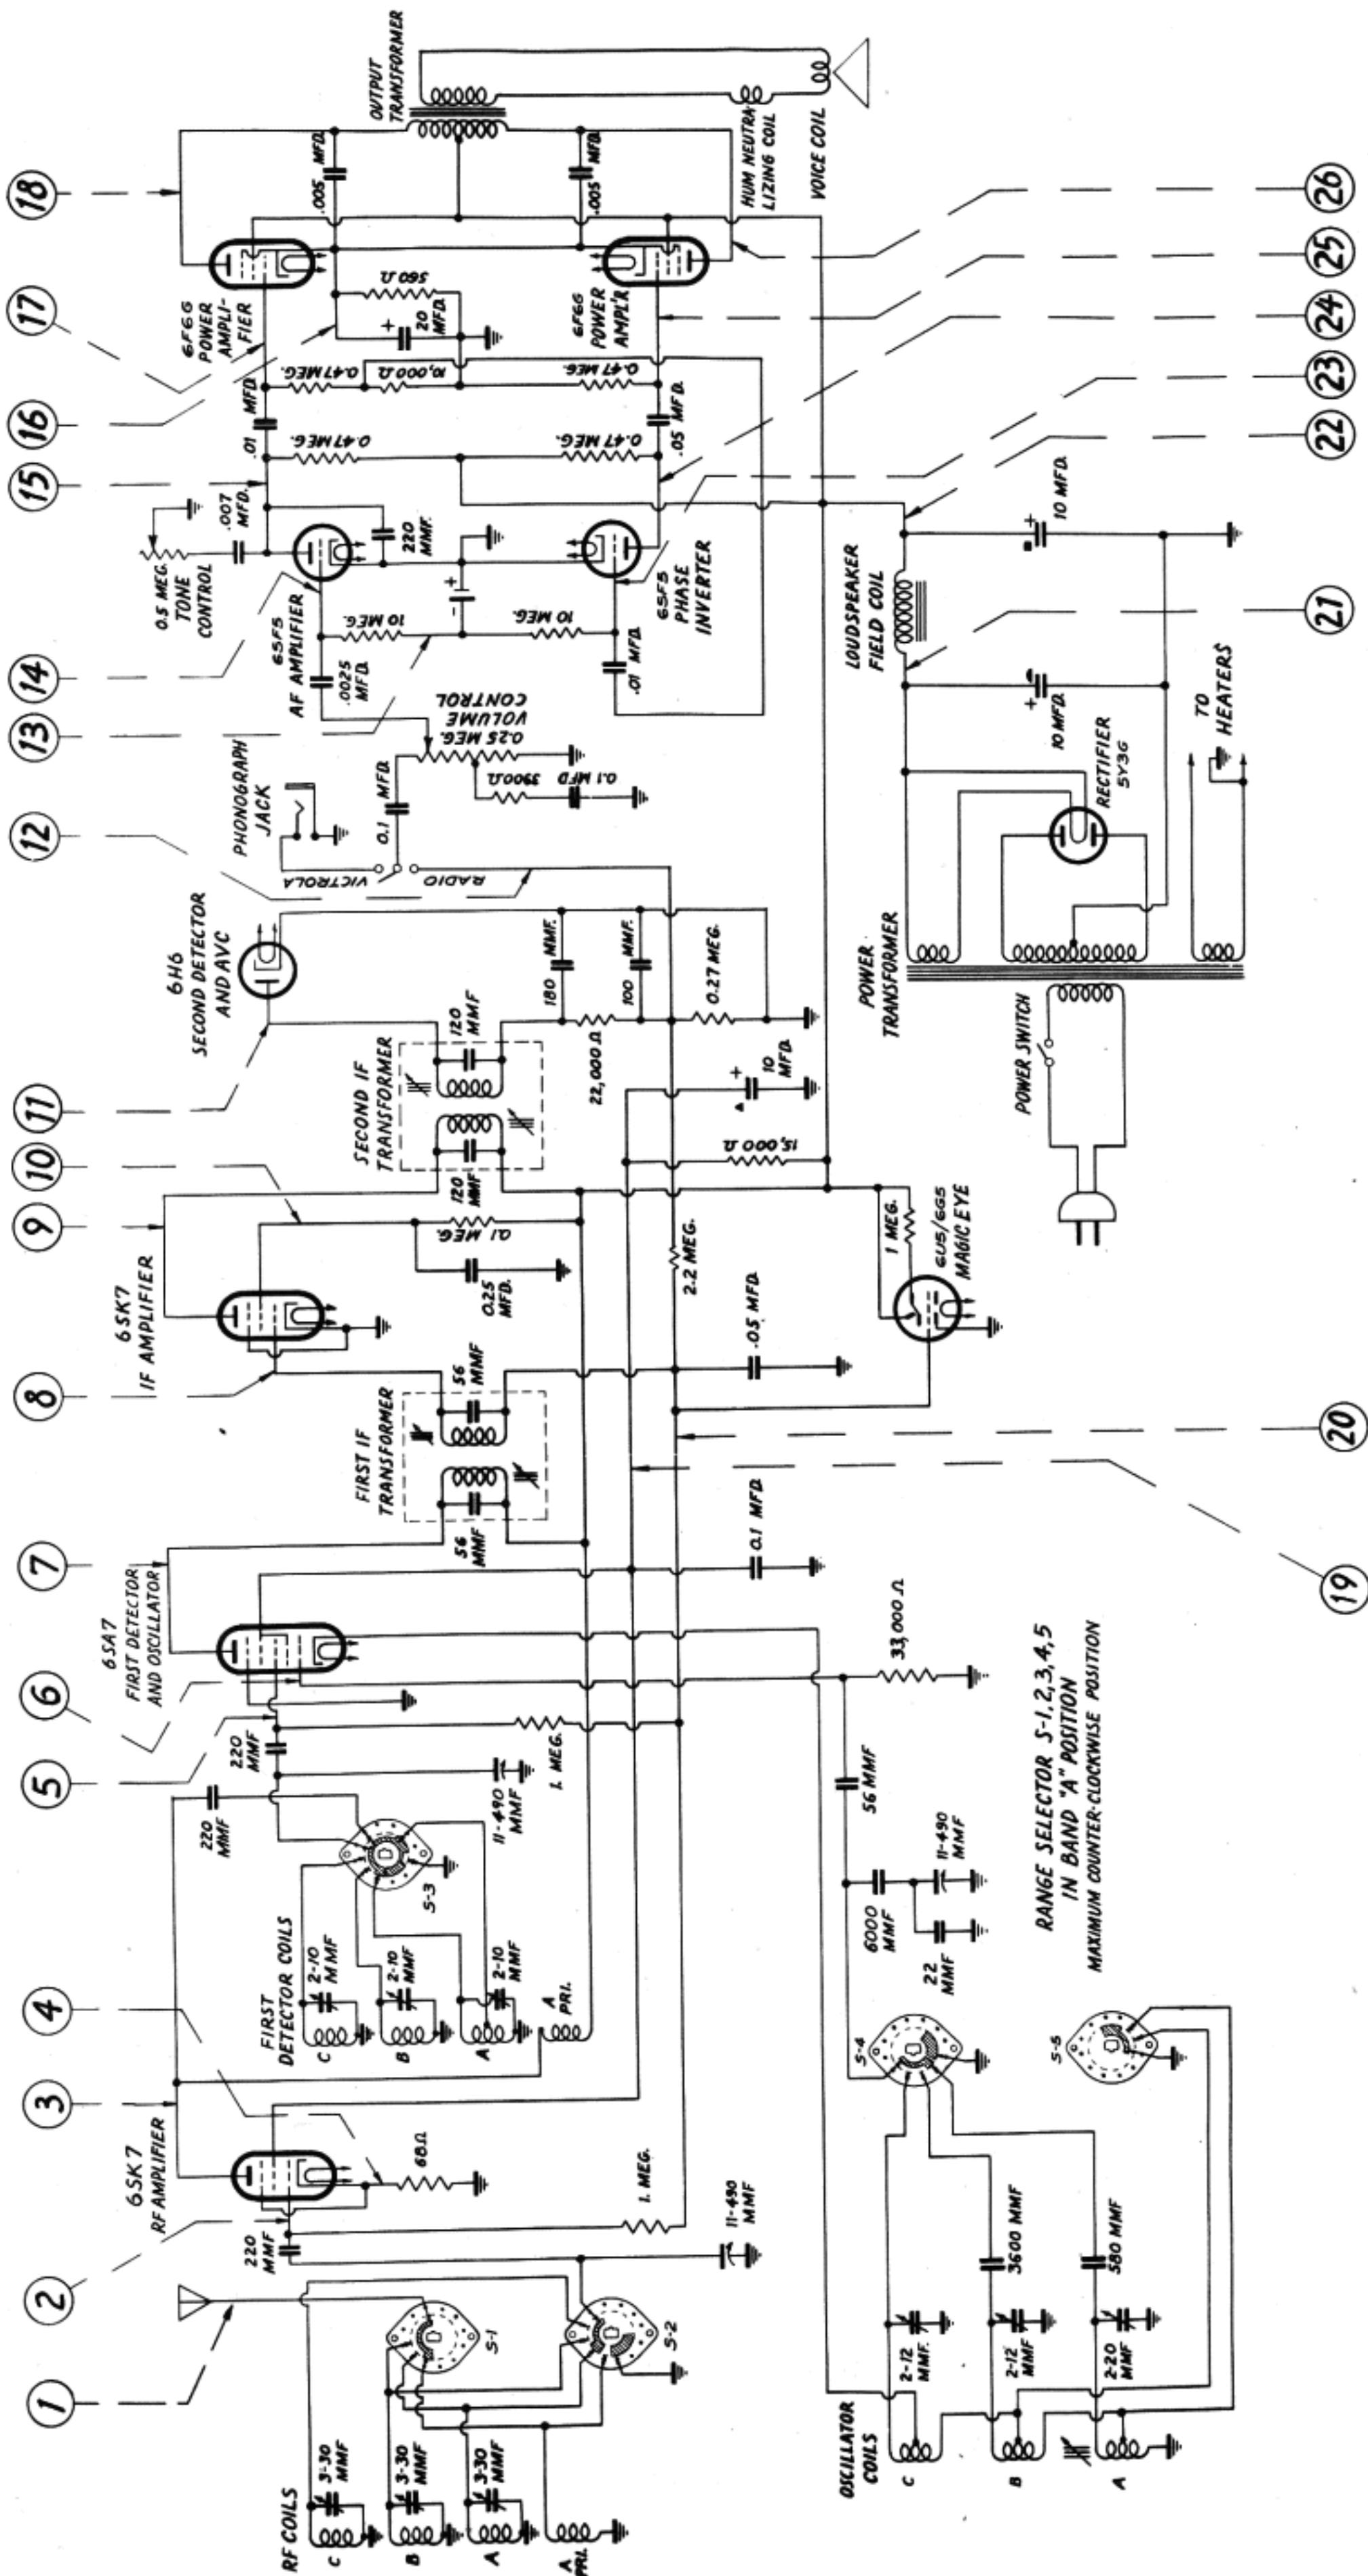
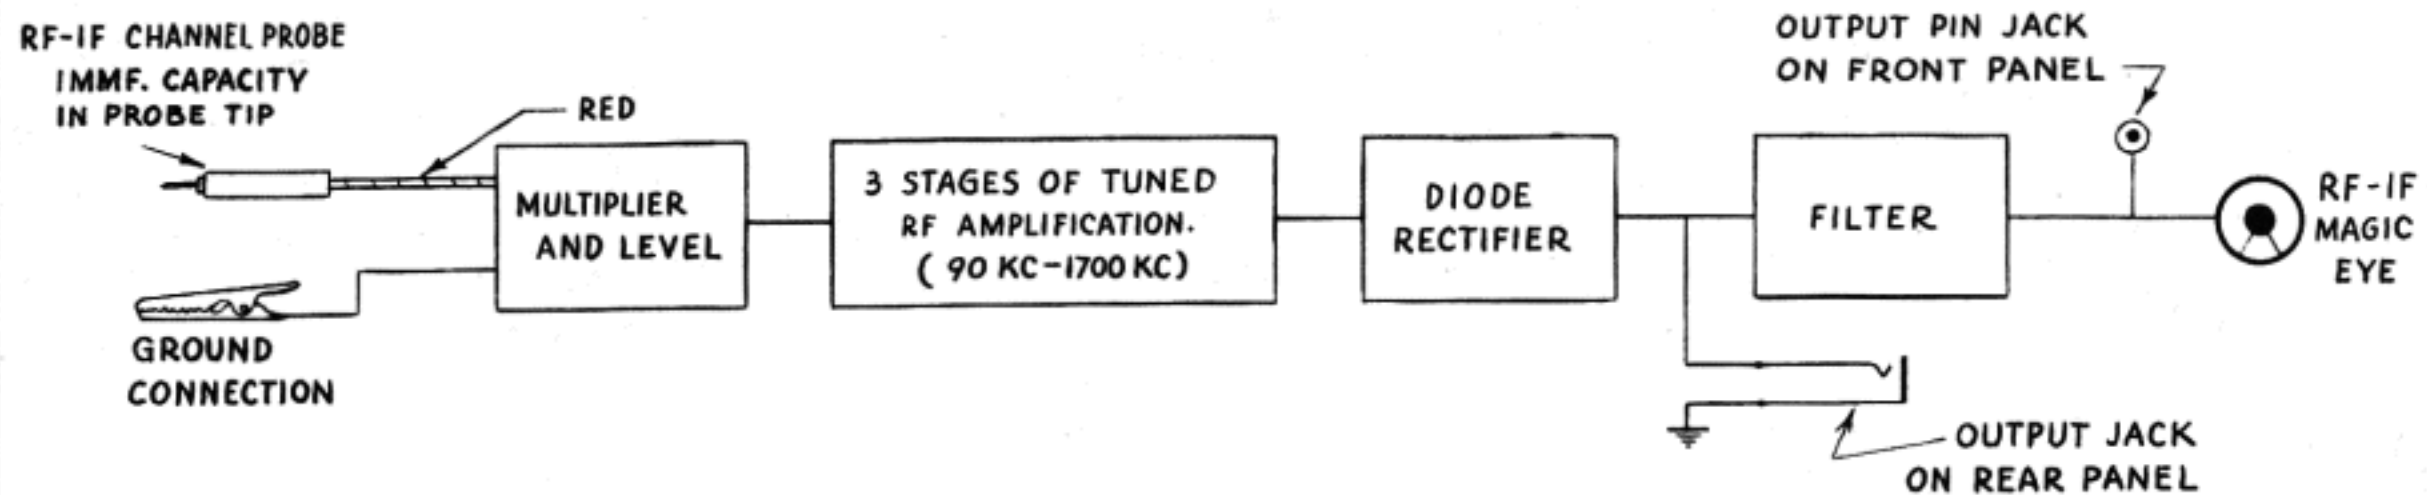

FIG. 2
FIG. 3- RF-IF CHANNEL
Figure 1 shows front and back views of the Chanalyst with all controls and indicators clearly marked. Figure 2 is a typical radio receiver schematic diagram with arrows pointing to the various points in the different circuits where tests can be made. References will be made to this schematic diagram in the following instructions which deal with specific applications of the Chanalyst. Figures 3, 4, 5, 6 and 7 show in block diagram form the essential units of each of the five channels.
As will be seen in Figure 3 the RF-IF channel input circuit consists of the common ground lead and an input probe having a 1 mmfd. condenser built into its tip. The ground lead is clipped to the receiver chassis at all times and therefore it is only necessary to move the one input probe from place to place in the receiver circuit when making tests using the RF-IF channel. Due to the 1 mmfd. condenser in its tip the probe can be touched to grids or plates of tubes without detuning the circuits or affecting their operation to a noticeable extent. The signal picked up by the probe then goes through the multiplier and level controls and into a three stage tuned radio frequency amplifier which has high sensitivity and selectivity and is tuneable from 90 KC to 1700 KC. The output of this amplifier is a diode rectifier from which the audio and DC components go to the RF-IF output jack on the back. The diode output also passes through a filter which removes most of the audio component but permits the DC component to pass through to the RF-IF magic eye. This DC component is also connected to the output pin jack mounted on the front panel.
If the radio receiver does not operate at all the signal picked up by the antenna is going part way through the receiver and at some point in the circuit, due to trouble, it stops. Also if the received signal is weak, one or more of the amplifying circuits are not amplifying the incoming signal by the normal amount. If either of these two conditions exists tracing the path of the signal through the receiver and measuring the gain of each amplifying stage will quickly and accurately show in what circuit the trouble exists. In the receiver whose schematic circuit diagram is shown in Figure 2 the principal test points are marked with numbered arrows. Use a suitable test oscillator and feed a 600 KC signal (modulated with 400 cycle audio) to the antenna and ground terminals of the receiver. Connect the Chanalyst ground lead to the receiver ground and the RF-IF probe to the antenna. Turn the RF-IF multiplier and level controls to position (1), the RF-IF band switch to position B, and the RF-IF dial to the position which gives maximum closing of the RF-IF magic eye. (This will be at approximately 600 KC on the dial depending on the accuracy of the test oscillator's dial calibration). Now tune the receiver to the test oscillator signal (600 KC) until maximum receiver output is obtained. If the receiver does not operate move Chanalyst RF-IF probe to (2) and tune receiver until maximum closing of the RF-IF magic eye is obtained. If necessary during these adjustments raise or lower the test oscillator output so that the RF-IF magic eye is partially closed but do not let it overlap since the tuning then becomes too broad.